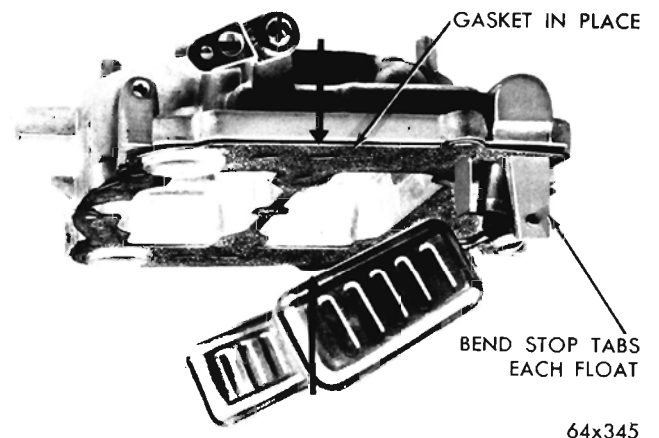

Fig. 11—Measuring Float Drop
(1) Holding the air horn in an upright position, measure the distance from the top of the floats (outer end) to the air horn gasket, as shown in (Fig. 11). This measurement should be $\frac{3}{4}$ inch. If an adjustment is necessary, bend the stop tabs on the float levers until the correct drop setting has been obtained. Bend the tab toward the needle seat to lessen the drop, or away from the seat to increase the drop.
(2) After the floats have been checked and adjusted, continue to assemble the carburetor as follows:
(3) Place the accelerator pump plunger lower spring in the pump cylinder, then lower the air horn carefully down on the main body. Care must be taken